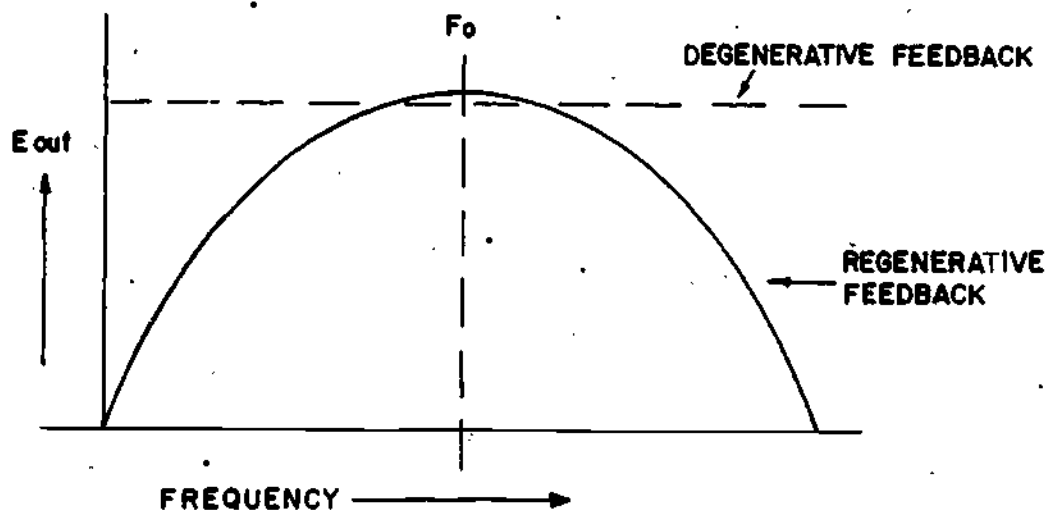

Figure 11
13. The drawing shown in Figure 11 shows the relationships of the regenerative and degenerative feedbacks to the output frequency (F_o).